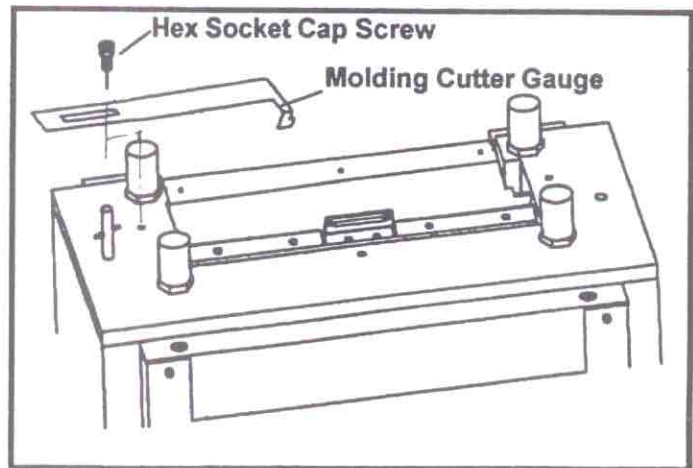

Fig. 11
8. Install molding cutter gauge with hex socket cap screw and tighten to hold in place. The guide may be attached to either side. See Fig. 11.